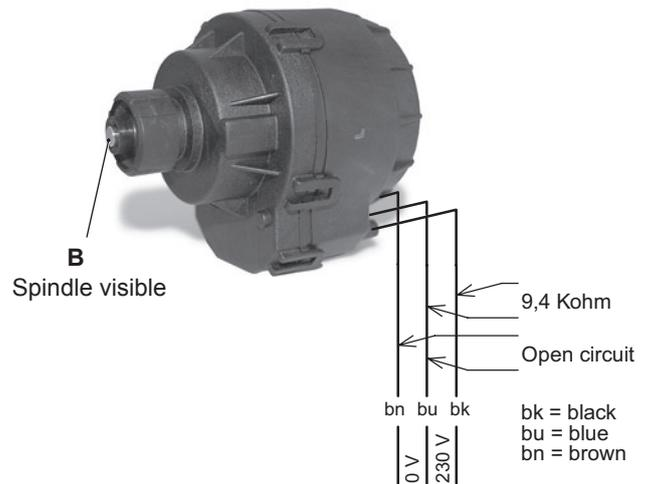

Figure 8.2 D.h.w. mode
Figure 8.2 indicates the relationship between the electric command coming from the electronic control p.c.b. and the position of the actuator B (brass spindle) when the boiler operates in **d.h.w. mode**.
- 3 Remove the fixing spring D and remove the actuator B. Reassemble the actuator carrying out the removal operations in the reverse order. When reassembling the actuator, refer to Figure 8.2 or to the wiring diagram in section "Checks" page 17 for the correct wiring connection.